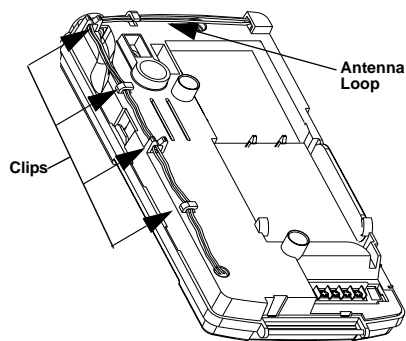

Figure 3. Antenna wiring as shipped
- Remove the antenna loop (see Figure 3) from the panel cabinet clips and feed through the antenna hole and down into the wall.